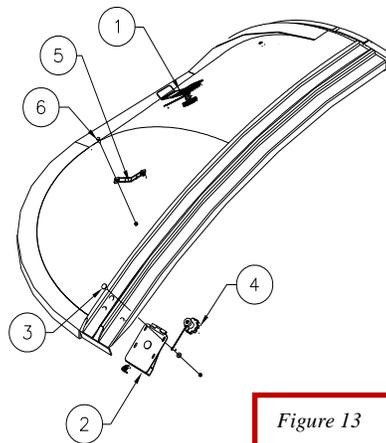
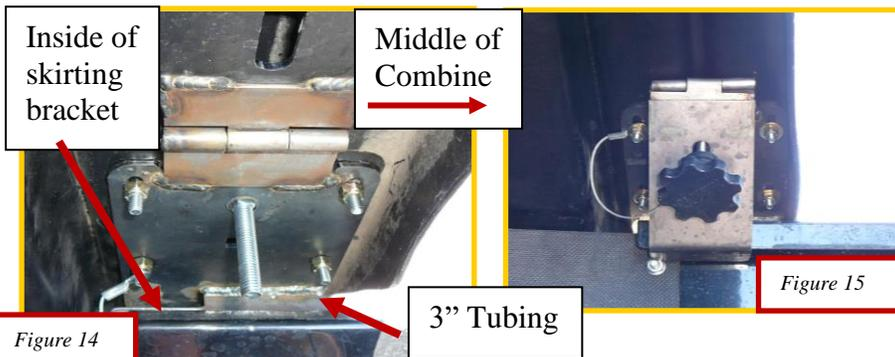

Figure 13
Figure 14
Attach the hood latches to the plastic hoods with 1/4" x 1" truss head bolts (3) 1/4" flat washers, 1/4" nylon washers. There are three different latches, four latches are longer with a piece of tubing welded on with 2-1/2" bolt (2) while the other is shorter with a 2-1/4" long bolt (1). The 2-1/2" latch (2) has to be bolted on the front or back of the hoods in the track. (Figure 13) When placing the front and rear latches on, make sure that the 3" tubing is to the outside of the plastic hood. (Figure 13)
Once the hoods are prepped carry up one of the hoods with the water trough and place in the front right corner like the one in Figure 13. On the front and rear latches, the 3" offset tubing should sit on the inside of the skirting bracket to ensure the proper distance between hoods. (Figure 14) With the hood in place swing the latch plate down so the lip catches under the lip on the extension and thread on knob to secure to combine. It is easier to attach the middle latch first and then the end ones. Next bring up one of the hoods with a decal/writing on it. Place the hood so it locks into the water trough of the first hood you brought up. Secure the hood to the combine with the latches. Repeat for other side of combine. You may have to pull the hoods together hard so they snap/lock together.